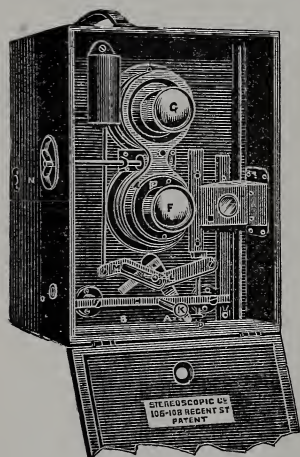

Fig. 61.
1. *Setting the Shutter.*—This is done by pulling the lever A (Fig. 61) from left to right; when set, the end of the lever will remain near the point marked B in the same diagram. The speed at which the shutter is to work is regulated by means of the
3. *Pressing the Trigger.*—The Carlton Camera is provided with two distinct shutter releases or triggers, one being for instantaneous and the other for time exposures. That for instantaneous work is shown at C in Fig. 61, and the exposure is made by gently pressing up the end of the flat strip of metal. The
4. *Changing the Plate after exposure* is instantaneously effected by placing the fingers of the right hand behind the bar H (Fig. 61) and pulling it forward as far as it will come. The plate will then be heard to fall into the bottom of the camera. The bar is pushed back into its original position by means of the projecting knob K, and the next plate comes into the proper register for exposure.